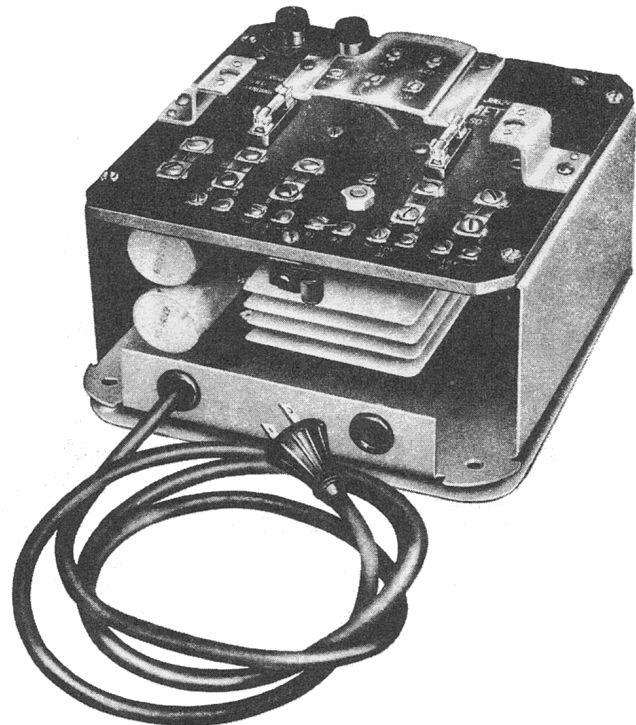
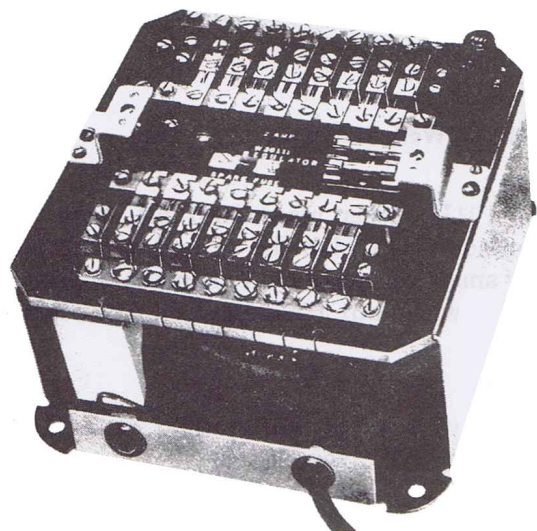

Fig. 2 — J86731A, List 6, Cover Removed
Fig. 4 — J86731B, List 1, Cover Removed
4.02 The 101G power plants J86731A, List 5 and List 6 (see Fig. 2), J86731B, List 1 (see Fig. 4), and J86731C, List 2 are mounted in beige-gray metal cabinets with removable covers. These cabinets are approximately 9 inches high, 8-1/4 inches wide, and 5-1/4 inches deep.